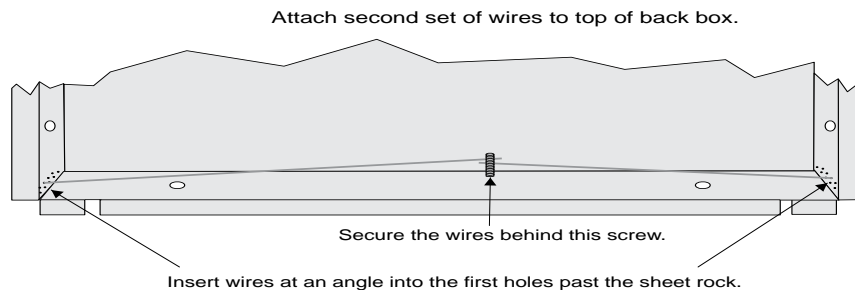

Figure 4.13 Flush Mounting the Back Box
1. Cut a hole in the sheet rock to the following dimensions: 8-1/4" W x 6-5/8"H. If an electrical box is used, the box must be 1-3/8" back from face of wall to accommodate the annunciator (see Figure 4.13).
3. Fit the annunciator back box into the hole and stabilize with mounting wires. Angle the mounting wires into the first hole past the sheet rock. Secure the wires behind the screws as shown in Figure 4.13. When all four wires are in place, the back box should fit snugly into the hole in the sheet rock.